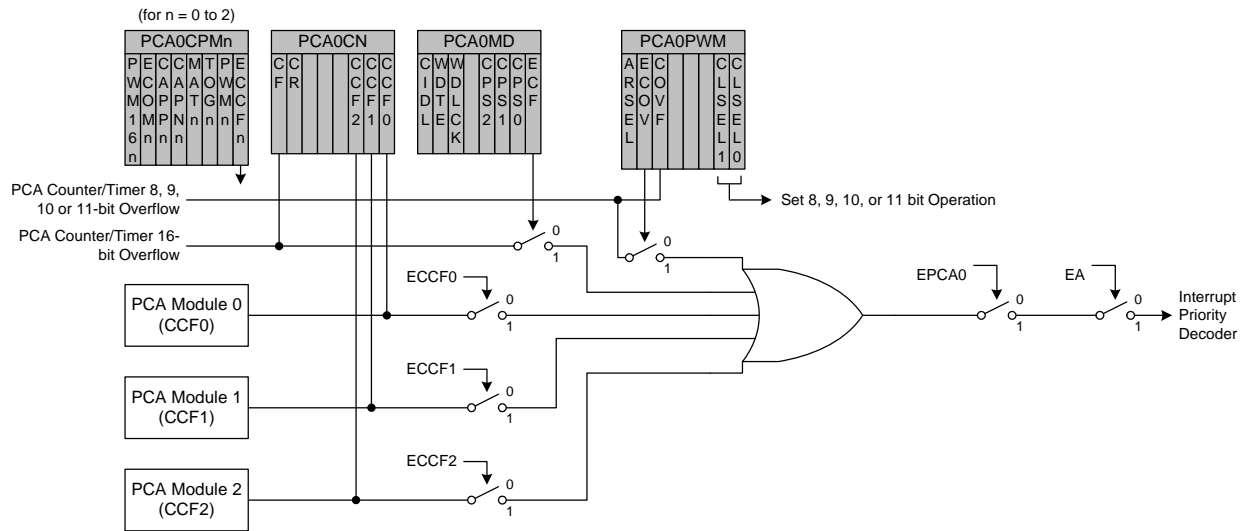

Figure 33.3. PCA Interrupt Block Diagram
Figure 33.3 shows a diagram of the PCA interrupt tree. There are five independent event flags that can be used to generate a PCA0 interrupt. They are: the main PCA counter overflow flag (CF), which is set upon a 16-bit overflow of the PCA0 counter, an intermediate overflow flag (COVF), which can be set on an overflow from the 8th, 9th, 10th, or 11th bit of the PCA0 counter, and the individual flags for each PCA channel (CCF0, CCF1, and CCF2), which are set according to the operation mode of that module. These event flags are always set when the trigger condition occurs. Each of these flags can be individually selected to generate a PCA0 interrupt, using the corresponding interrupt enable flag (ECF for CF, ECOV for COVF, and ECCFn for each CCFn). PCA0 interrupts must be globally enabled before any individual interrupt sources are recognized by the processor. PCA0 interrupts are globally enabled by setting the EA bit and the EPCA0 bit to logic 1.